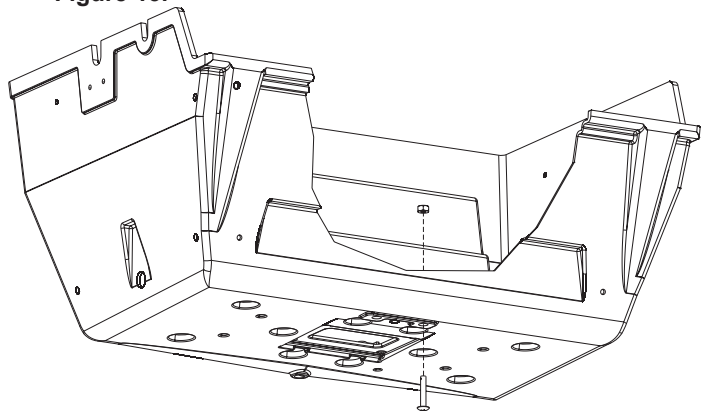

Figure 13
7. Insert the 1/4-20 x 1 1/2 Phillips Truss Head Screw from the underside of the grill and secure with the 1/4-20 Hex Nut. See Figure 13.